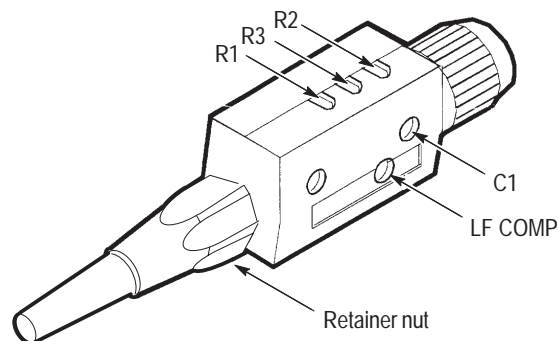
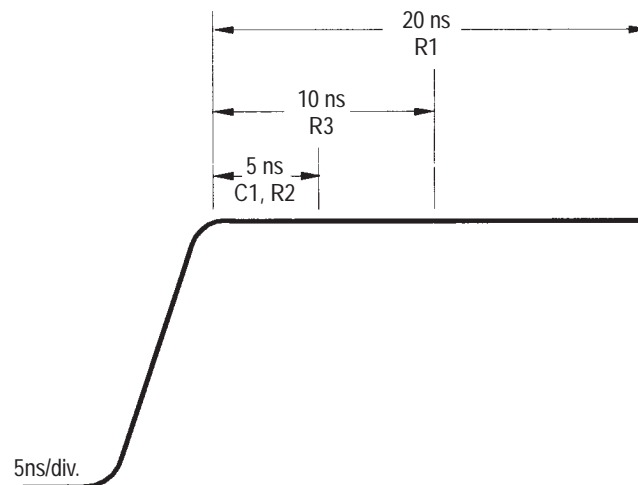

Figure 8: High-frequency adjustments locations
Figure 9: High-frequency adjustment effects on waveform areas
5. Use the low-reactance nonconductive adjustment tool to adjust LF COMP (low-frequency compensation) for the squarest waveform front corner edge. Refer to Figures 8 and 9 for further details.
See Figure 8 for the location of all adjustments to follow and Figure 9 for identification of the waveform area affected by each adjustment. The high-frequency adjustments affect probe bandwidth. A small overshoot on the leading edge of the pulse may be necessary to meet the bandwidth specification.